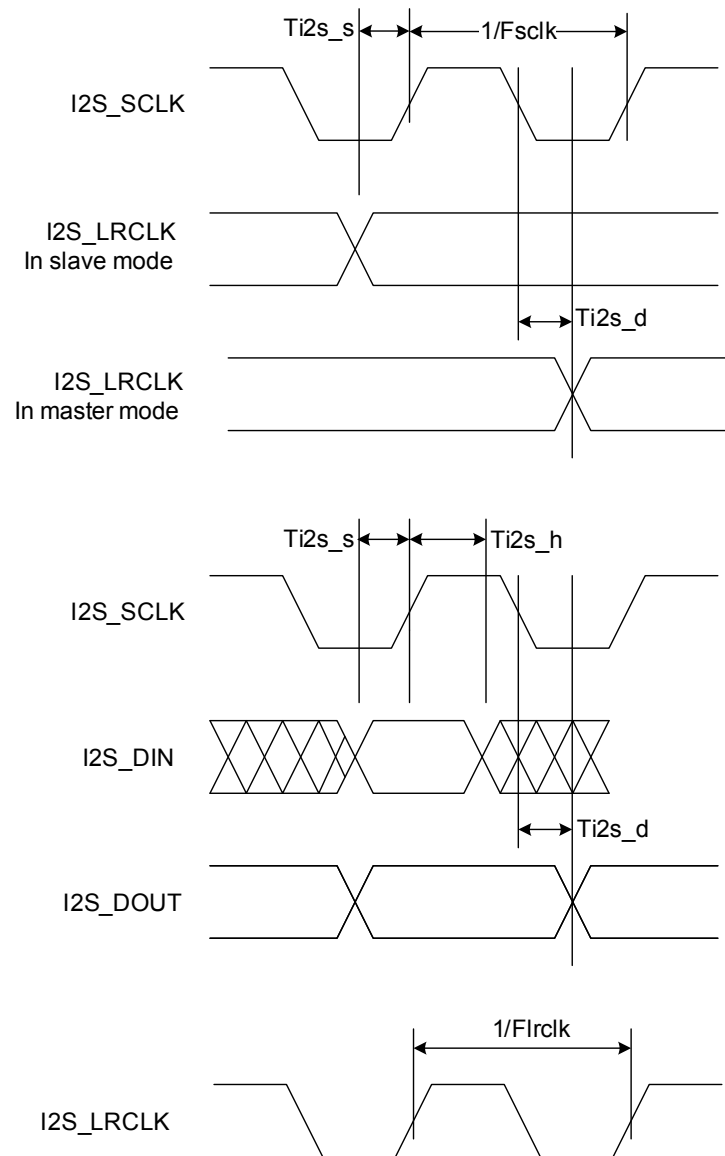

Figure 7. I2S Interface Timing
SPECIFICATIONS AND TIMING FOR THE I2S PORT (5) See <a href="#">Figure 7</a> .